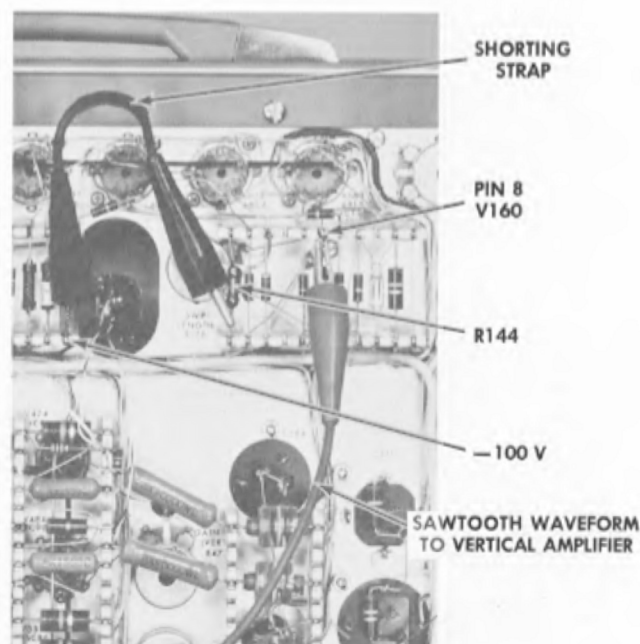

Fig. 6-3. Connections for obtaining a vertical trace on the Type 503 Oscilloscope.
**15. High-Frequency Compensation.** To adjust the high-frequency compensation of the horizontal attenuators, a vertical trace must be obtained by connecting the output of the Sweep Generator to the Vertical Amplifier. To do this, connect the bottom of R144 to an internal source of —100 volts and connect pin 8 of V160 to the +INPUT connector of the Vertical Amplifier. Fig. 6-3 illustrates how these connections can be made.